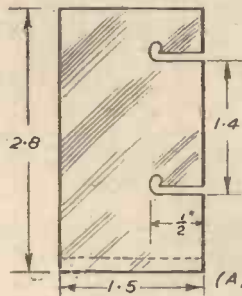
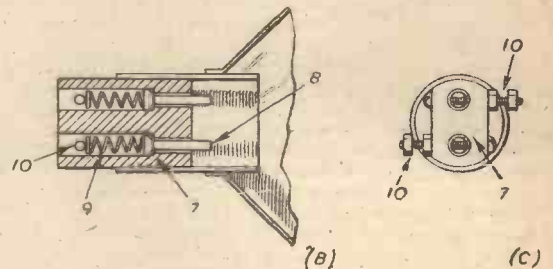

Fig. 4.—Bayonet grips cut in strip of tin.
Fig. 5.—Section and end-view of bayonet socket for bulbs with standard sized bases.
Whatever the type of bulb used, a holder is necessary, and this is usually difficult to obtain. It can be made up easily and rapidly from odds and ends. For the car bulb, a piece of light tube is selected with a diameter about 1/4 in., a loose fit for the base of the bulb. A piece of curtain rod is the most suitable source of material. Cut the tube into 1 1/2 in. lengths. The bayonet grip is made in two operations. First drill a 1/8 in. hole right through the tube, accurately along a diameter, about 1/2 in. from one end (Figs. 2 and 3). Then, using two blades in a hacksaw frame to give the necessary width, make a cut down to each hole, slightly to one side, so that the typical bayonet socket is produced (Figs. 4 and 5). It is best to make these cuts separately, by tilting the saw,
It is not advisable to make holders for standard-sized bulbs on this system. A strip of tin (Fig. 4), is cut to the size shown and bent into a cylinder around the base of a bulb, a strip of thick paper between bulb and tin giving the necessary clearance. The cylinder is held temporarily with a loop of wire and soldered lightly along the joint. A piece of wooden rod (7), about 9/10in. diameter has two 1/4in. holes, separated by 1/2in., drilled along its length. These holes are then widened to within 1/4in. of one end by a 1/4in. twist drill. Two circular section wire nails (8), are cut down to about 7/10in. length, and inserted to act as contact studs. The heads may need to be filed to pass freely into the 1/4in. holes. Two small springs (9) preferably of brass or copper, press on the heads of the nails. The springs are best held in place by two 6 B.A. bolts (10, Fig. 5). The bolts act as terminals for the flex, and are arranged "back-to-front," as shown, to support the weight of the lamp evenly. Flat surfaces are obtained for the bolts by four hacksaw cuts. The tin is held in position on the timber by small screws or tacks, and the shade (11) is soldered to the holder, as before.